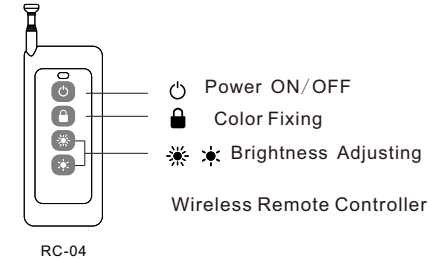

Fig. 3
Set SW6 as "ON", and the remote controller starts to work. Button "🔒" is applied to fix color, button "🔌" for power on/off, and button "☀️" "🌑" used for brightness adjusting. (6 levels) (See Fig. 3)
(4) The connection of Master/Slave Control Mode (See Fig. 3):
- (1) Side Lighting Fiber Optic:(See Fig.3).
- (2) End Lighting Fiber Optic: